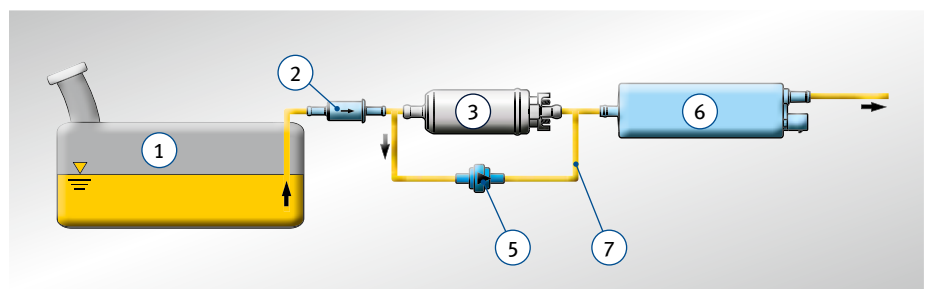

Fig. 4: Installation of the E1F as pre-feeder pump
Fig. 4: To bridge the distance to an existing fuel pump (6), the E1F can be used as a second pre-feeder pump. For an existing fuel pump to be able to take in freely with the E1F switched off, a bypass line (7) must be laid around the E1F (3).